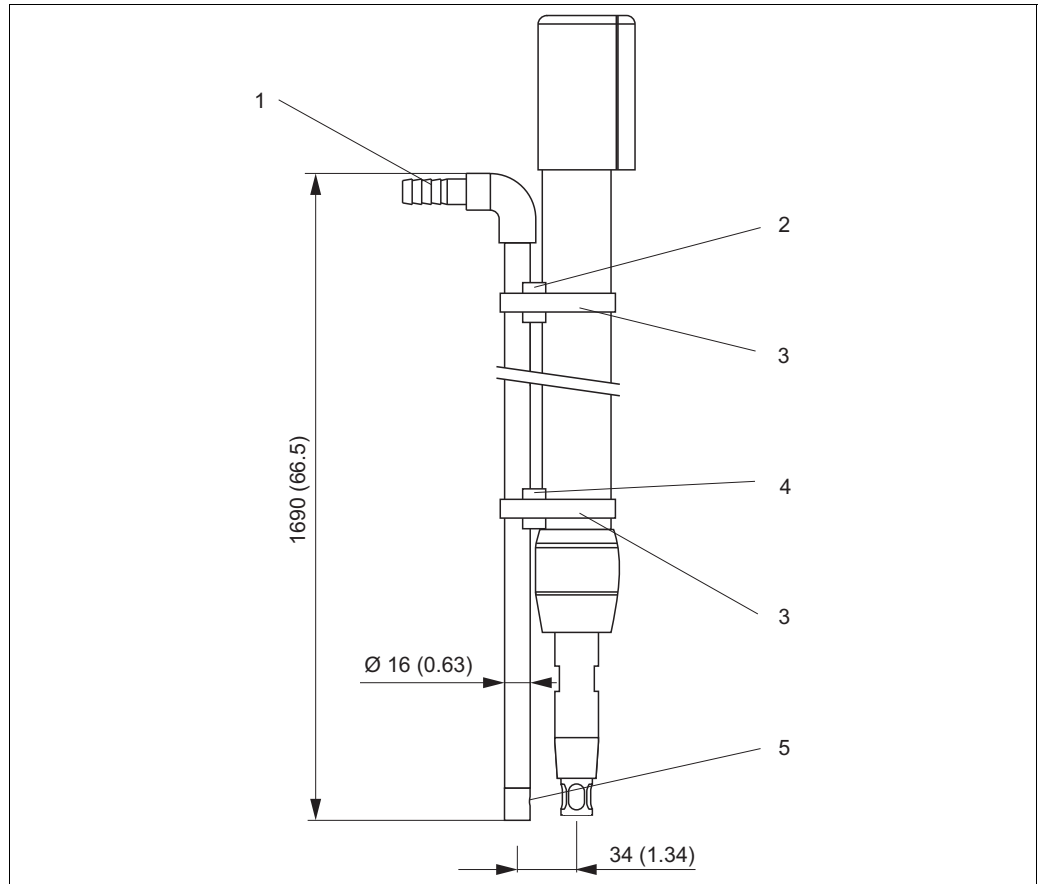

Fig. 13: Spray cleaning system
1. Secure the pipe of the spray cleaning kit to the OYA611 using the worm drive hose clips (→ Fig. 13, pos. 3) and the spacers (pos. 2, 4).